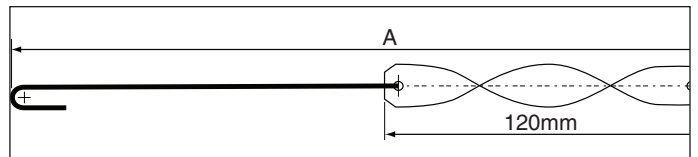

Figure 5-11.
7. Check position of flue baffle. (See Figure 5-11 & 5-12)